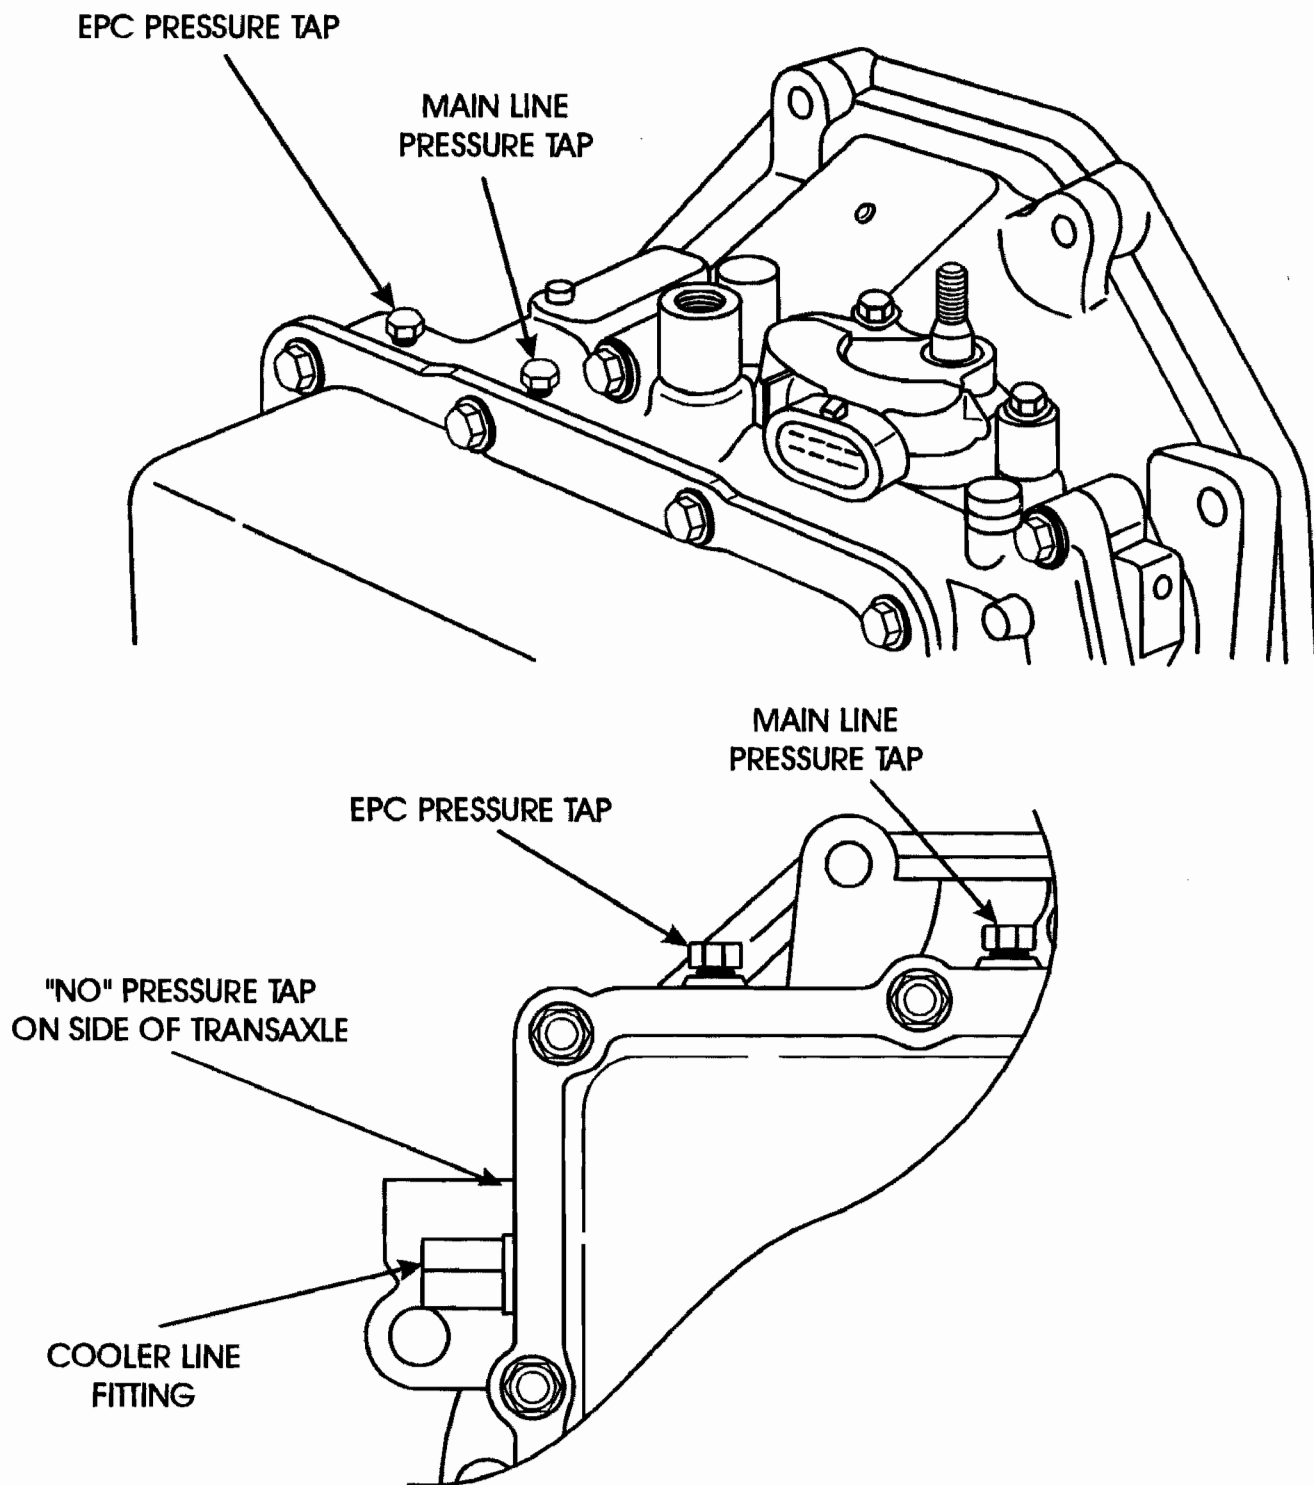

Figure 2
*Refer to Figure 2 for the AX4N transaxle pressure tap locations.*